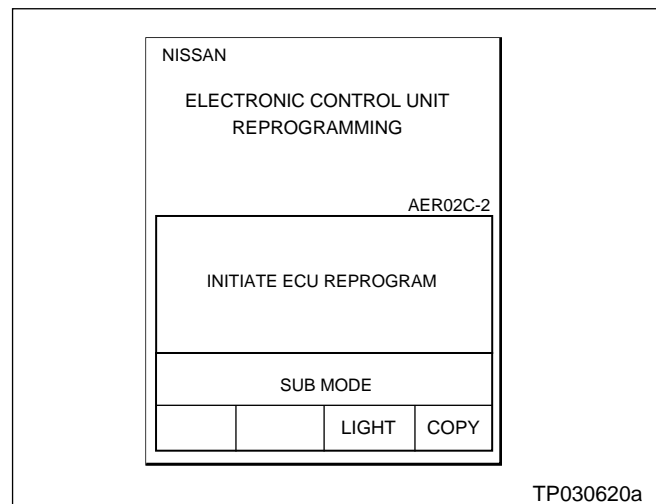

Figure 7
2. Press **SUB MODE** (see Figure 7) then: